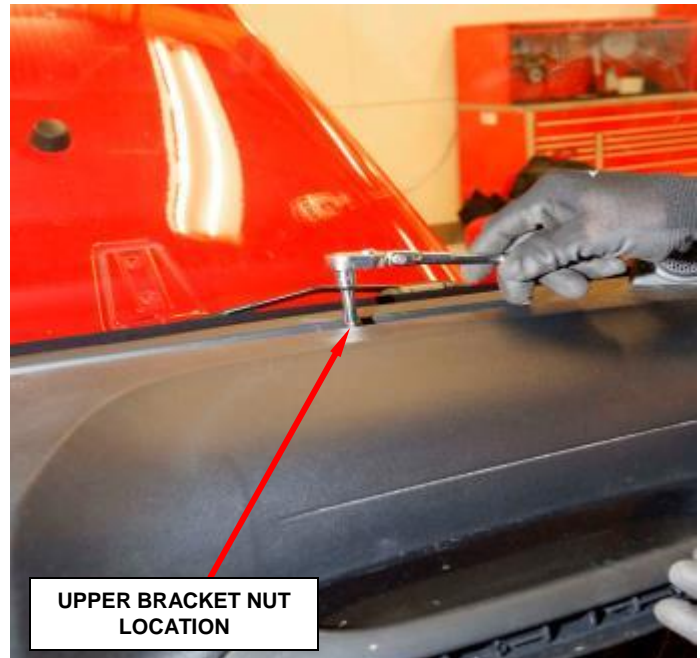

Figure 96 – PAB Upper Bracket Nut
26. Working through the access hole, **loosen** the nut that secures the PAB upper bracket and the instrument panel armature to the stud near the windshield fence line (Figure 96).